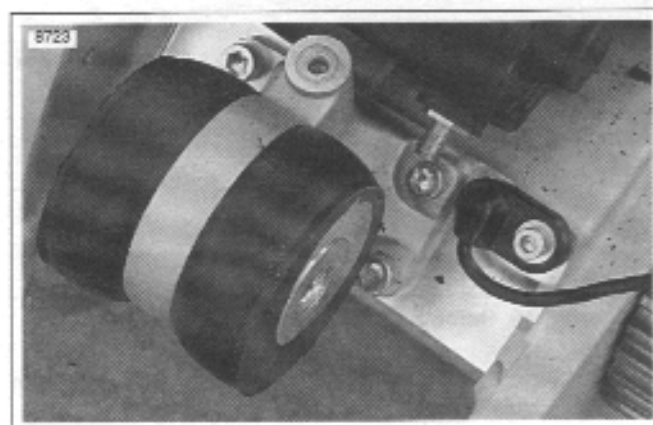

Figure 6-44. Rear Isolator Assembly
13. See Figure 6-44. Remove rear isolator assembly by removing the forward two fasteners first and then the two rear fasteners (re-install with new fasteners).